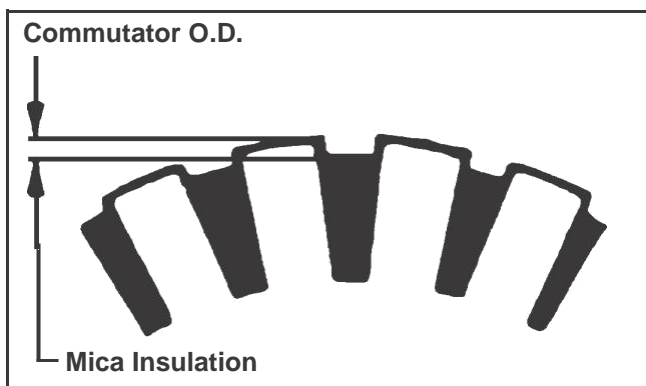

Figure 8-41. Commutator Mica Inspection.
- Clean and inspect the commutator (outer surface). The mica insulation of the commutator must be lower than the O.D. surface (undercut) to ensure proper operation of the commutator. See Figure 8-41.